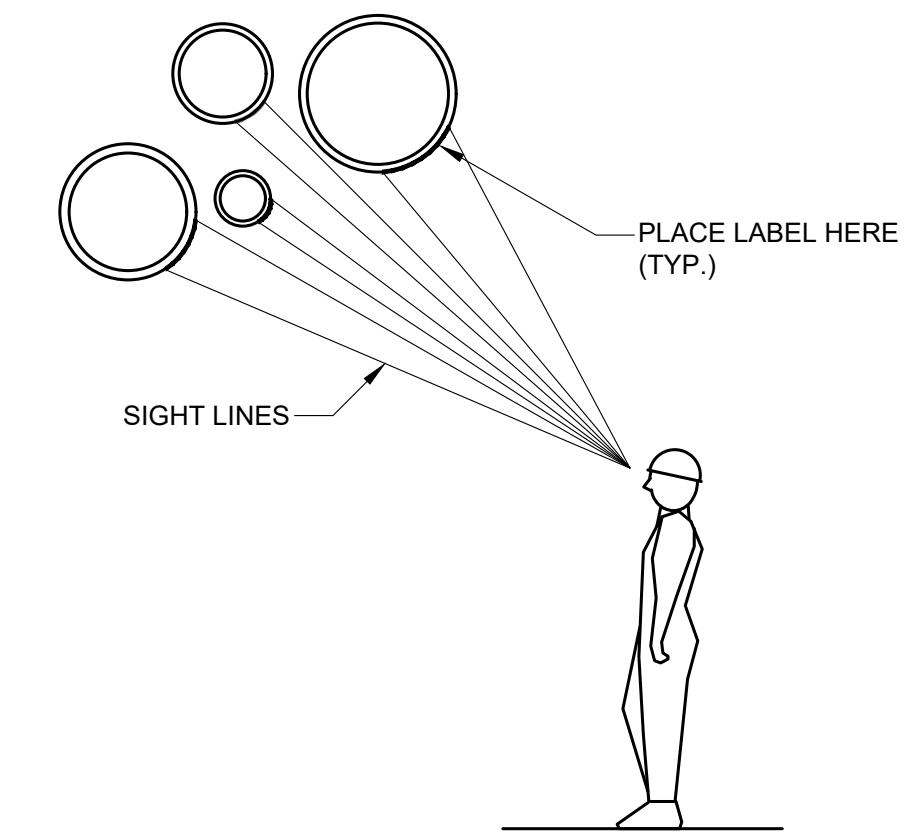

FIGURE 4: SITE LINE DETAIL
- WHERE PIPELINES ARE LOCATED ABOVE OR BELOW THE NORMAL LINE OF VISION, THE LEGEND SHALL BE PLACED BELOW OR ABOVE THE HORIZONTAL CENTERLINE OF THE PIPE (SEE FIGURE 4).